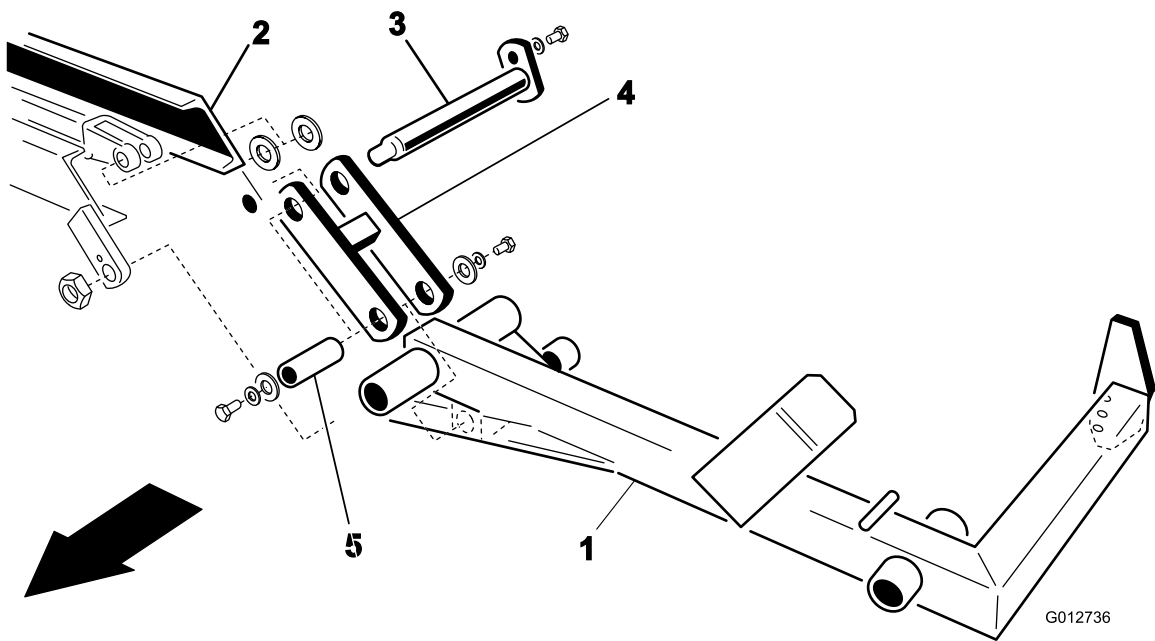

Figure 6
1. Loosely mount the appropriate lift arm (right or left) to the front cross channel with the lift bail pin and a locknut (3/4 inch) as shown in Figure 6.
2. Secure the end of the lift bail pin to the side of the front cross channel with a bolt (3/16 x 3/4 inch) and lock washer (3/16 inch) as shown in Figure 6.
5. Secure the end of the link to the bottom of the lift arm with a shaft, 2 flatwashers, 2 lock washers (3/8 inch), and 2 bolts (3/8 x 1 inch) as shown in Figure 6.
6. Mount the other end of the link to the hydraulic cylinder with 2 larger flat washers, flat washers, lock washers (3/8 inch), and bolts (3/8 x 1 inch) as shown in Figure 6. Position the larger flat washers between the link and the hydraulic cylinder end.